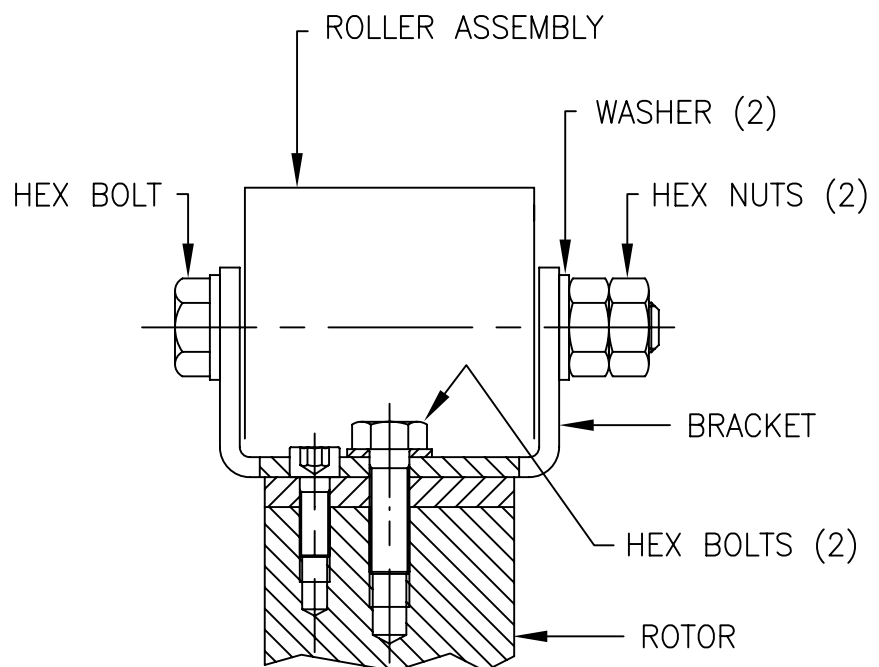

Figure 4.6 - Roller/Bracket Assembly: Model S26
4.3.3 Roller Assembly Removal - Model S26 (See Figure 4.6)